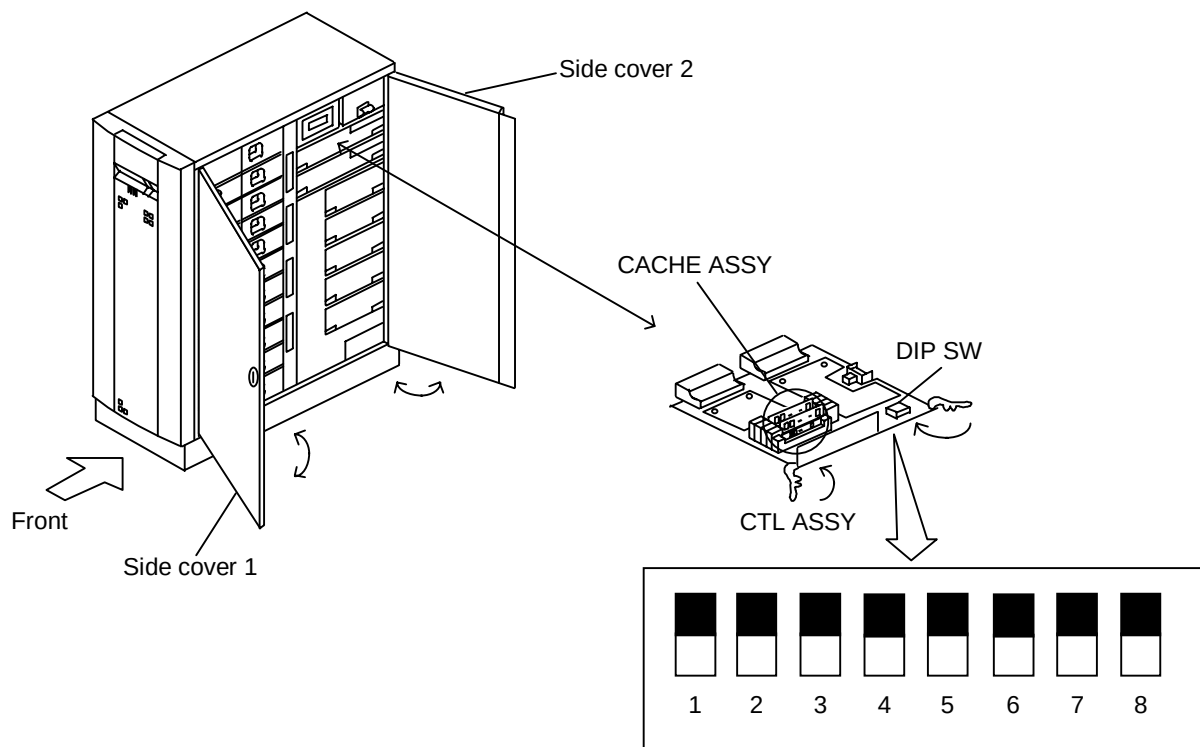

Figure 2.5.3 Installing the CTL ASSY
- (3) Open the side covers.
- (4) Install a CACHE ASSY in the additional CTL ASSY. (Mount a CACHE ASSY of the same capacity in the same corresponding slot of the optional CTL ASSY as those of the already installed CTL ASSY respectively as shown on CK-OPTION0160.)
- (5) Insert the CTL ASSY in a predetermined position with the right and left levers opened. Push the right and left levers in the arrow-marked direction (→) at the same time. (See Figure 2.5.3.)
- (6) Install the additional I/F ADAPTER ASSY. (See Figure 2.5.3.) Set JP1 and JP2 on the I/F ADAPTER to the same condition as the pre-installed I/F ADAPTER ASSY.